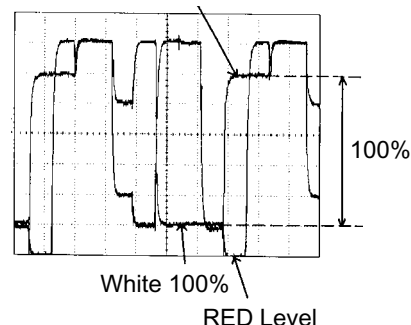

Fig. 2-2
9. Press the VOL. UP/DOWN button on the remote control until the red color level is adjusted to  $120 \pm 10\%$  of the white level. (**Refer to Fig. 2-2**)